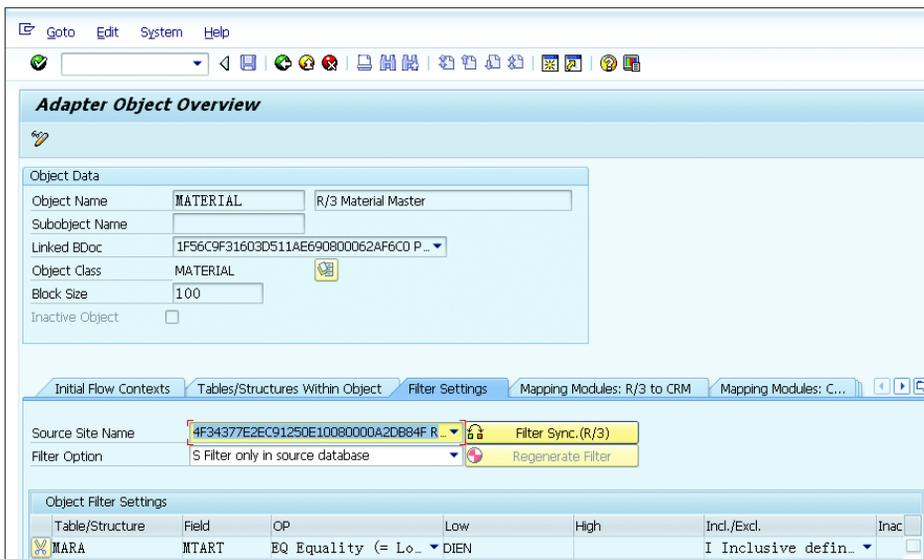

Figure 2.36 Adapter Object MATERIAL
3. Go to the FILTER SETTINGS tab (see Figure 2.36).